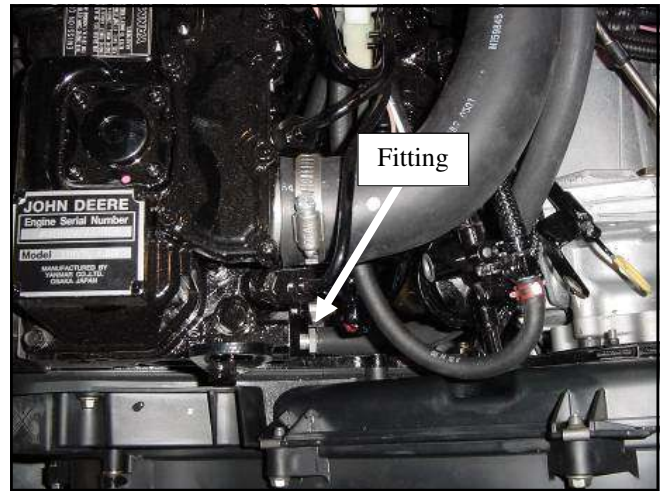

FIGURE 5.34
5.34 (DIESEL ENGINE ONLY) Install supplied fitting using thread sealant into the spot where the drain fitting was removed. (See Figure 5.34)